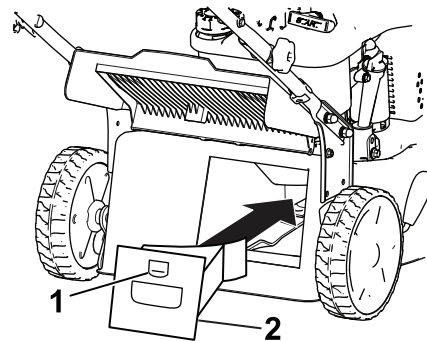

Figure 16
1. Raise and hold up the rear door (Figure 16).
2. Install the mulching plug into the housing and lock the plug into the opening in the housing (Figure 16).